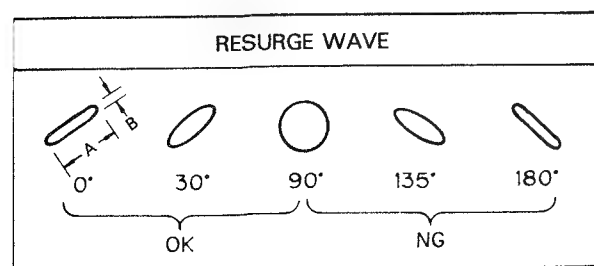

Fig. 2-2
- Playback the test tape; adjust the azimuth screw so that section A of the resurge wave form is maximum and section B is minimum. Fig. 2-2